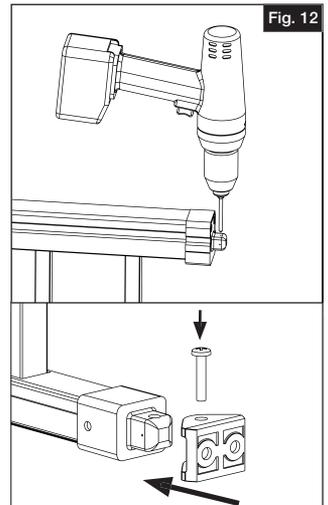

Fig. 12
- b. Once centered, slowly lower rail assembly carefully to allow full engagement between section and brackets in all four locations on posts (Fig. 12).
- a. Bring assembled rails between posts and line up with installed bases. While holding section with brackets in between the installed bases (From Steps 2a-c), pre-drill through the top holes on back of brackets with $\frac{9}{32}$ " drill bit, and connect brackets to bases with $\frac{1}{4}$ " sex bolts provided (Fig. 12).